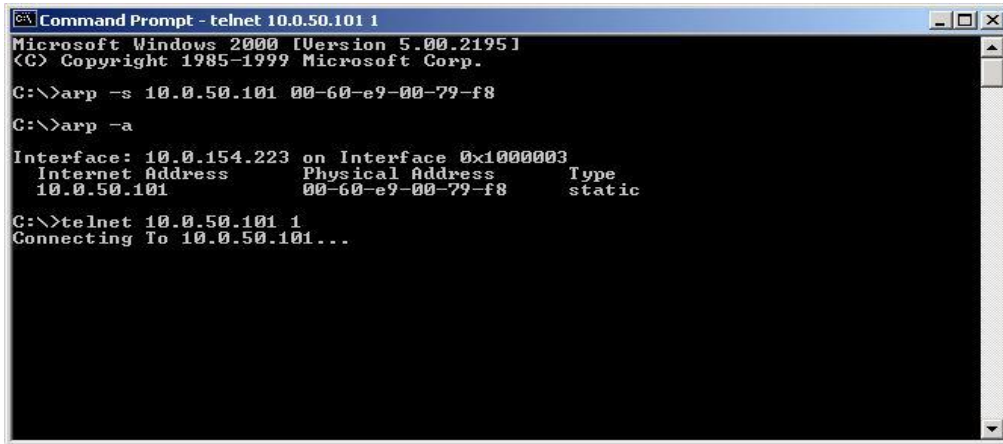

Fig. 34. Assigning a new IP address with ARP command
**Step2:** Change to the new IP via Telnet port 1 (Fig. 34)